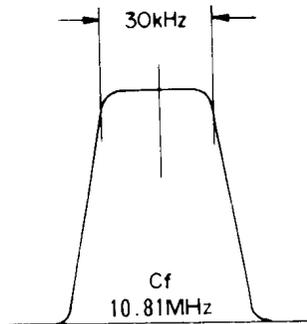

Figure 1
- Adjust the cores of T₁₀₀₅, T₁₀₀₆ and T₁₀₁₄ until the scope pattern illustrated in Figure 1 is obtained.